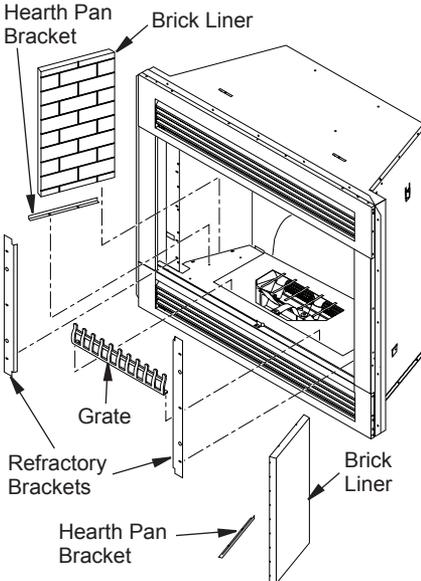

Figure 31 - Accessing Imaging Unit
2. Remove screens, grate, hearth pan brackets and brick liners. See Figure 31 and instructions under Optional Brick Liners, page 9.